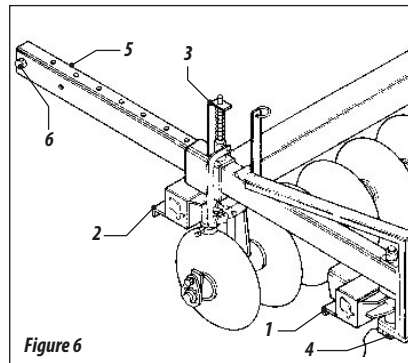

Figure 6
- 12 - Place the lock handle on the rear frame (1) (2), locking it with the cotter pin.
- 13 - Then, pass the adjustment bar (3) inside the lock handle (2) joining the front frame (4) through the screw (5). Finally, place the screw (6) on the adjustment bar (3), as shown in figure 6.